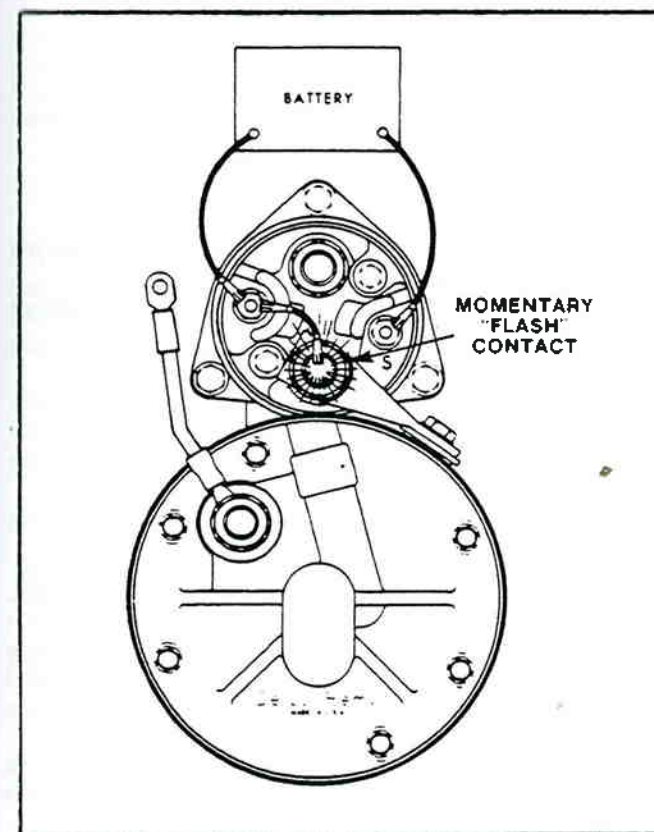

Figure 7-45. Connections for Checking Pinion Clearance (42-MT).
1. Make connections as shown in figure 7-45.
2. Momentarily flash a jumper lead from ground return terminal to terminal MTR (figure 7-45). The drive will now shift into cranking position and remain so until the battery is disconnected.